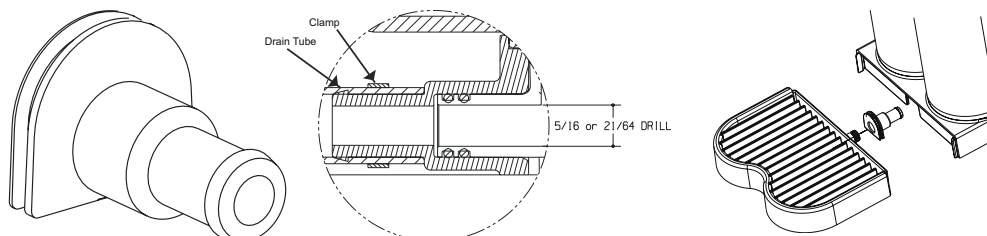

Fig. 3.1
2. Attach end to adaptor fitting (P.N. 675-0062) (Fig. 3.1)